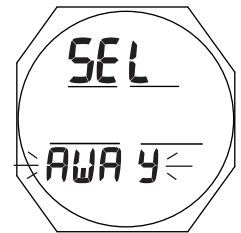

Fig. 22 - SELECT WATCH MAIN TIME
**Select Main Time**, information includes (Fig. 22):